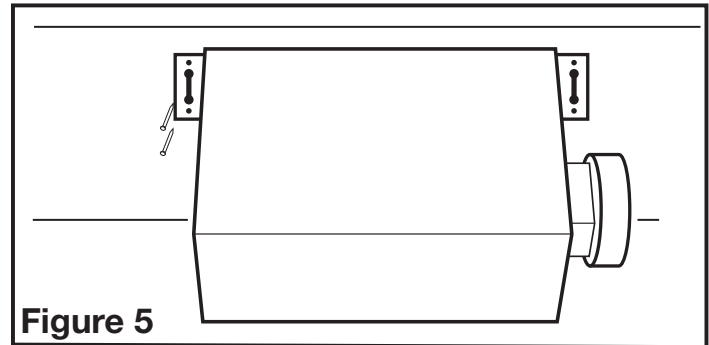
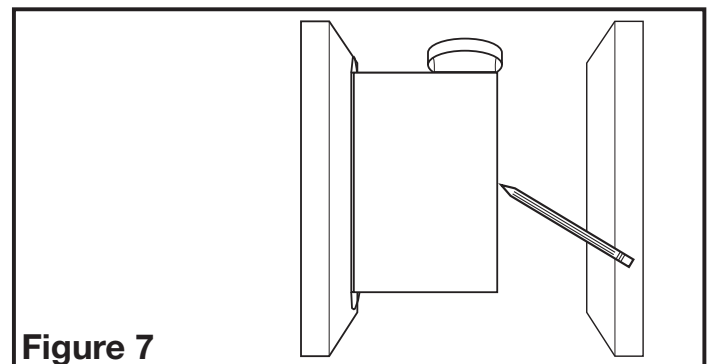

Figure 5
Figure 7
- 1a. **Mounting Tab Installation:** Line up housing so that it will be flush with the finished ceiling. Position the fan so that the tabs rest flat against the joist and secure with screws or nails (not provided) to ensure proper installation (Figure 5).
- 1a. **Mounting Tab Installation:** Position housing against the joist and trace an outline of the housing onto the ceiling material (Figure 7). Set housing aside and cut opening, being careful not to cut or damage any electrical or other hidden utilities. Place housing next to the joist and insure that it is flush with the finished ceiling. Secure with screws or nails (not provided) to the joists (Figure 5).